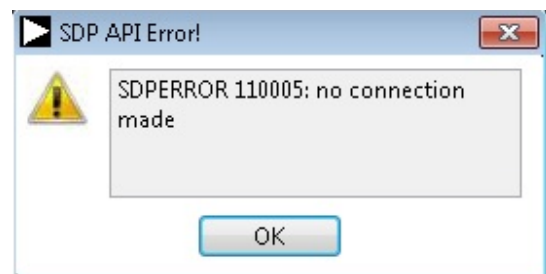

Figure 16. SDP-H1 Board Not Connected to the USB Port Pop-Up Window Error
3. If **Cancel** is clicked, a message appears as shown in Figure 16.